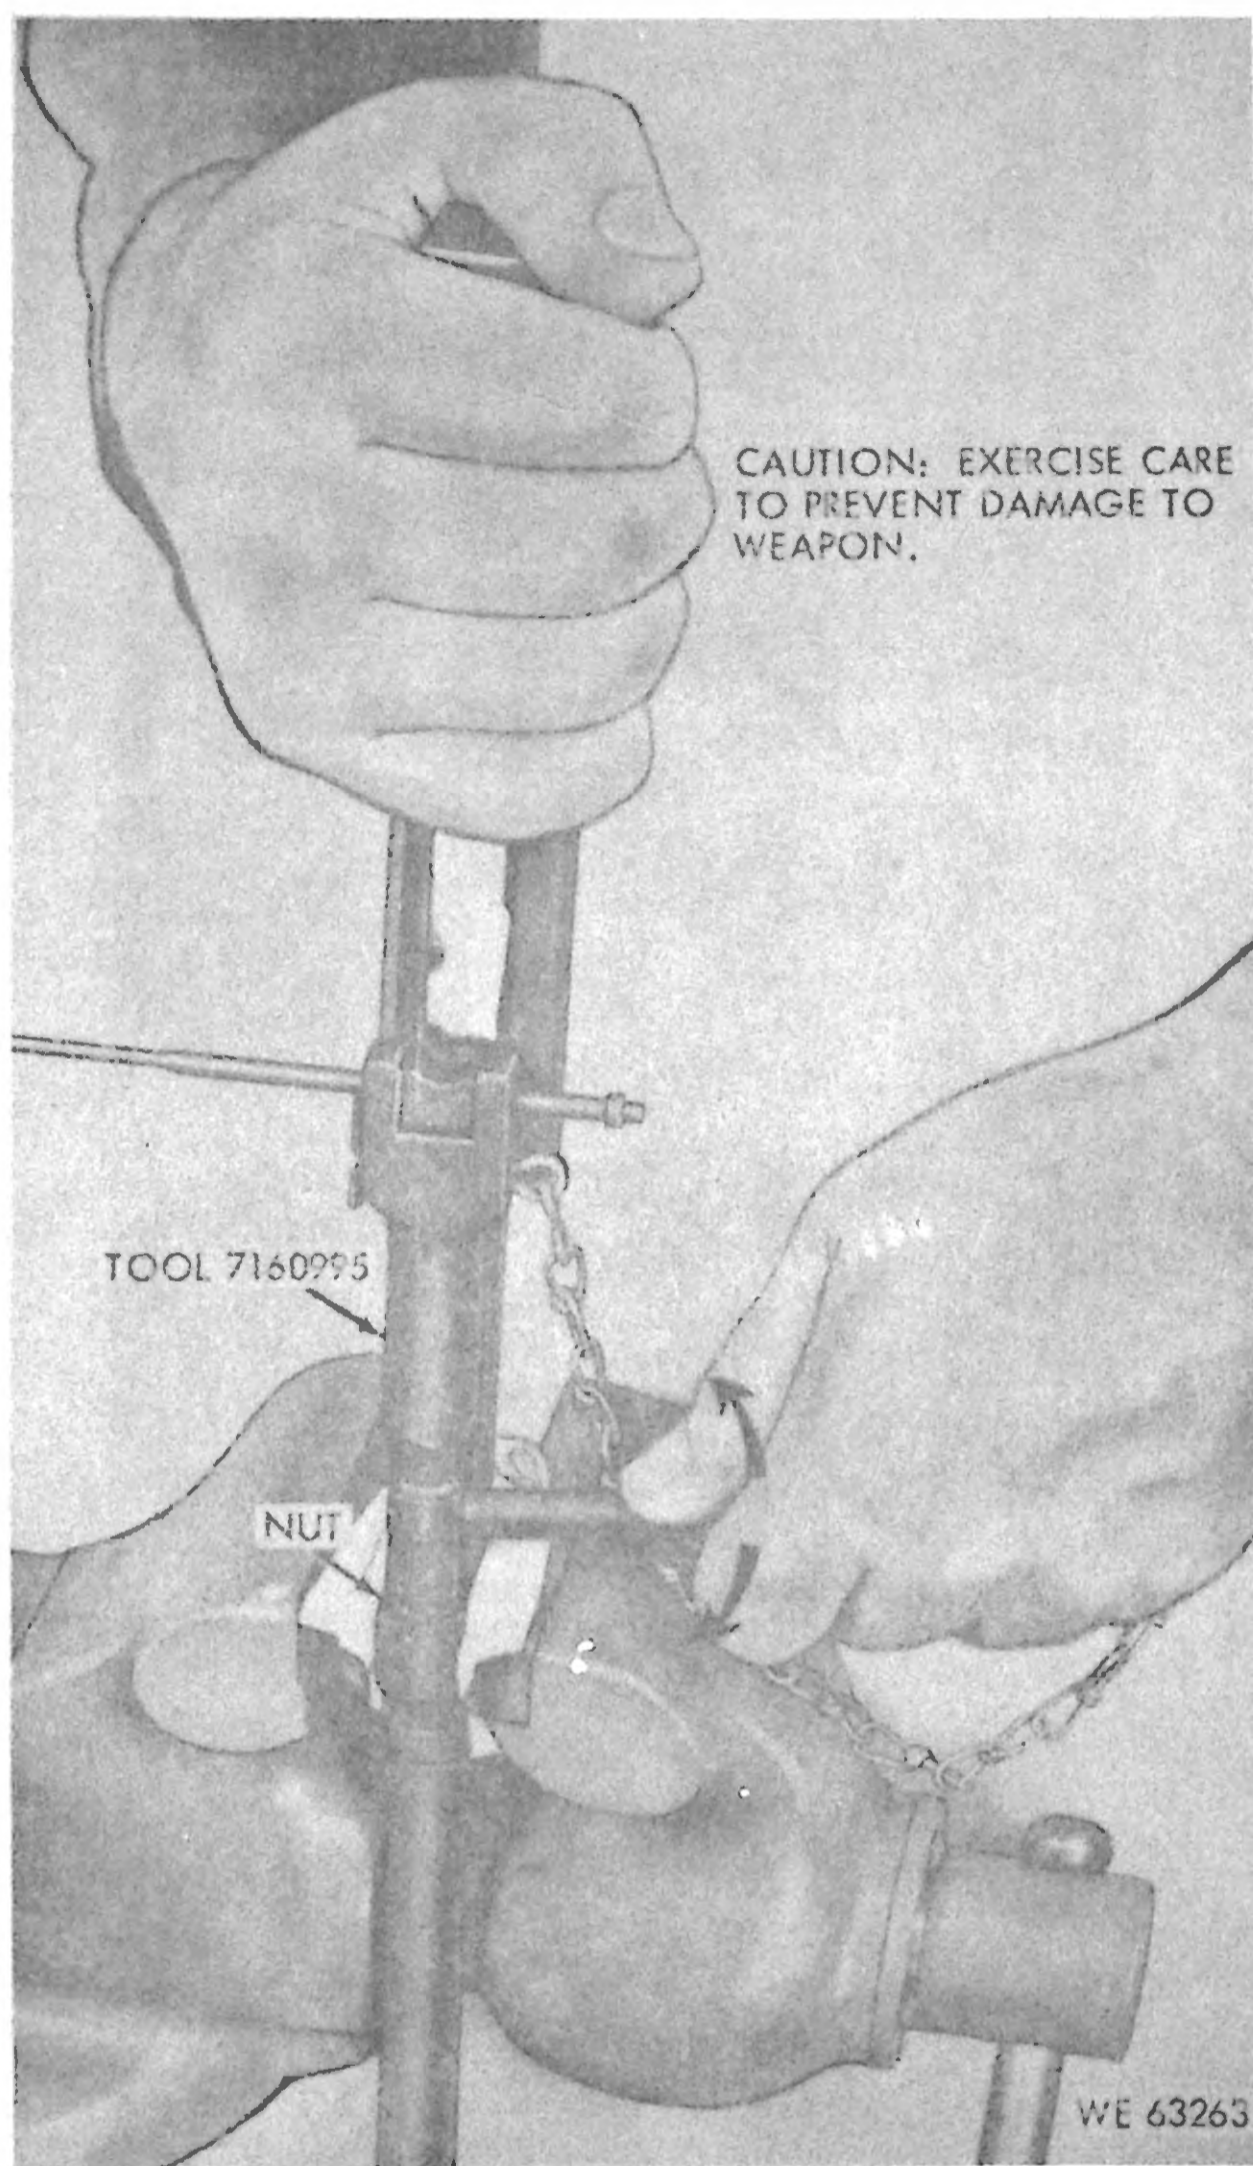

Figure 3-3. Removing and installing gas cylinder piston nut, using tool 7160995.
- (4) *Gas cylinder piston nut.* Refer to figure 3-3.